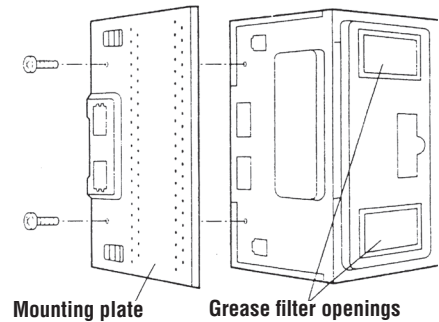

Figure 7
1. Rest the oven on its side as shown in Figure 7. Place portion (C) of the carton underneath to protect the outercase from being damaged.